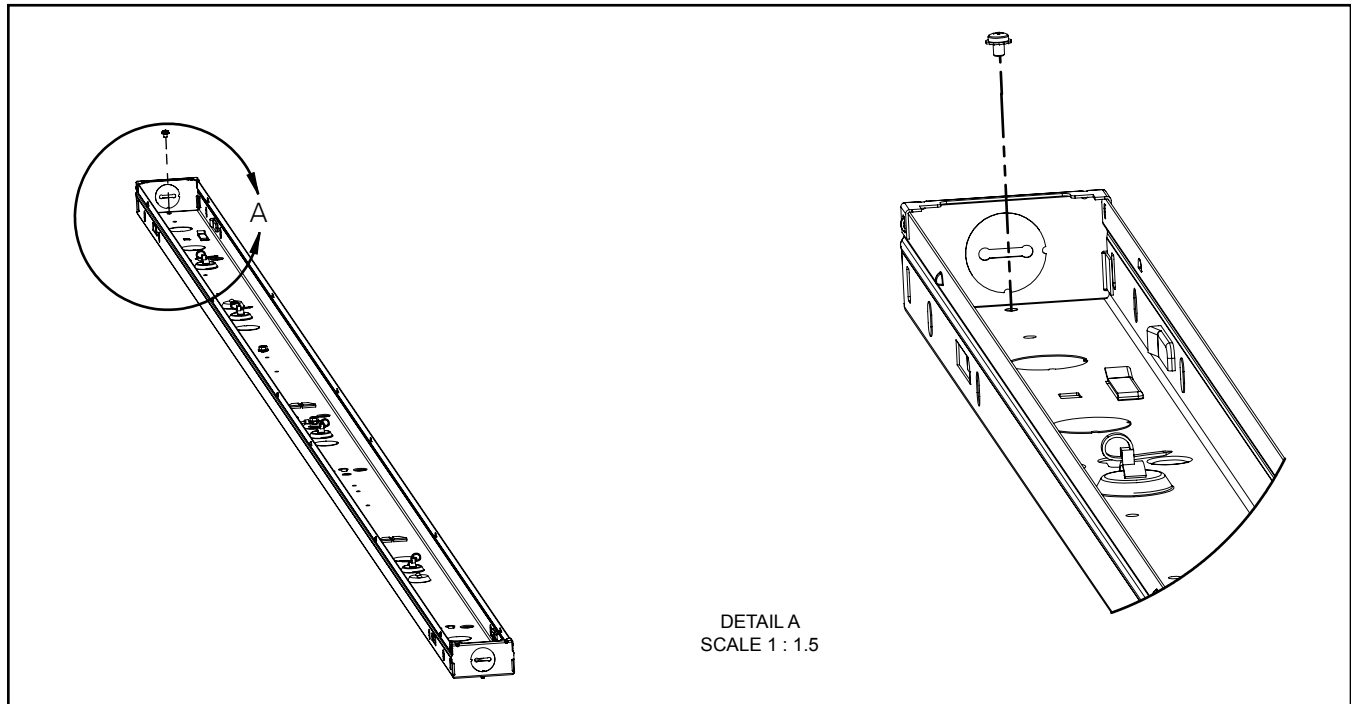

Figure 2
2. Use a Philips head screw driver to unfasten screw holding the metal endcap (Figure 2). Then squeeze the channel and pull to remove the metal endcap.